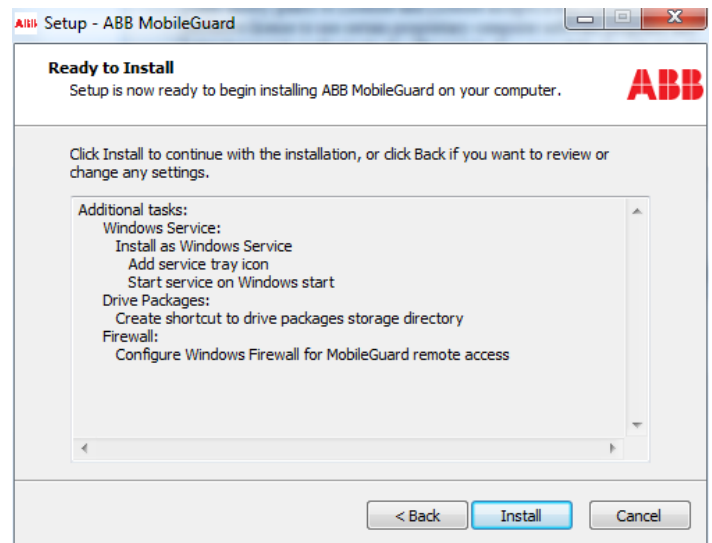

Figure 3 Summary of Actions Prior to Install
- 4 Click **Next**. A window appears displaying a summary of actions prior to installation (see Figure 3).